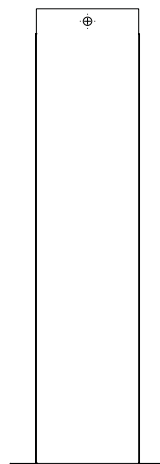

Figure 17
8. The brackets have a perforation at the bottom of each side. Bend them at the perforation. See **Figure 17**.